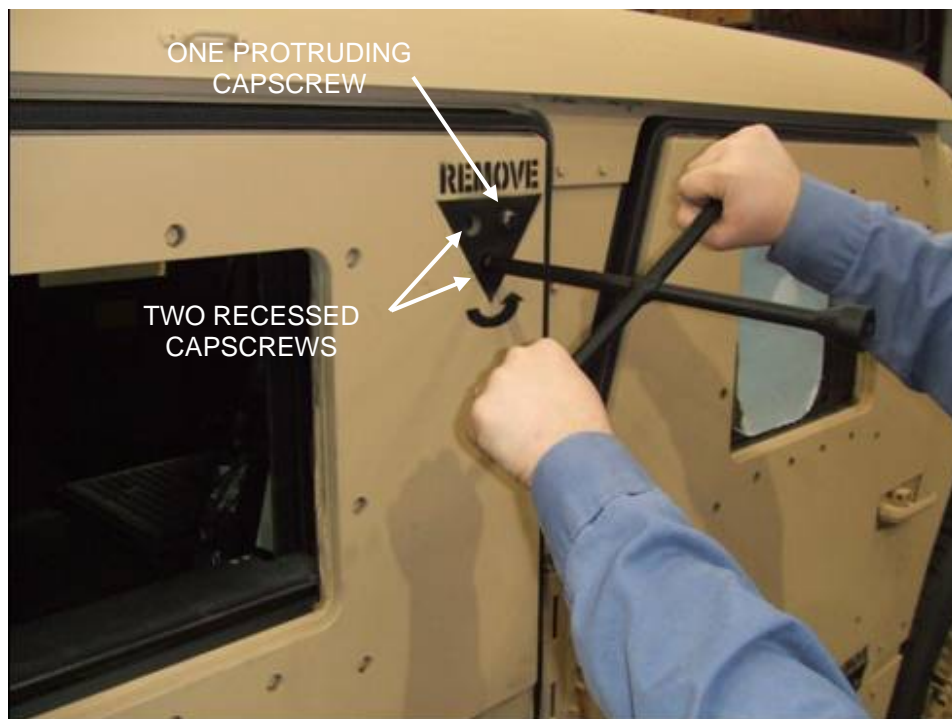

Figure 5
- c) Note that one cap screw in each group protrudes from door overlay. Refer to figures 5.
- d) Remove one group of three cap screws, beginning with recessed cap screws. Using the ½ inch hex ends, rotate Emergency Rescue Wrench counter clockwise. Refer to figure 5.